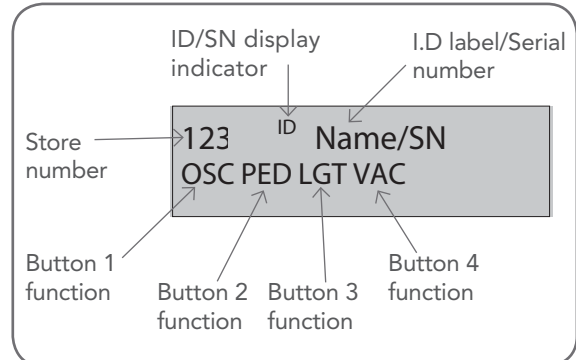

Fig 10.1
The NeoSlider™ can store up to thirty (30) transmitters in its memory. Each transmitter can be allocated an alpha-numeric ID label up to eleven (11) characters in length and each button can be assigned to one of several control functions. The settings for a transmitter are represented in **Fig. 10.1**. It shows the transmitter's store number, ID label or serial number and the functions assigned to each of the four buttons. To toggle between ID/SN display, press UP/DOWN with the cursor on the ID/SN indicator. The procedures below code, delete, replace, edit and copy transmitter records.